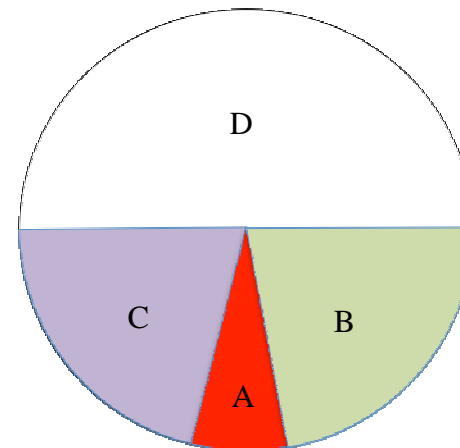

Fig. 2 Control Area
1. Include: Pointing the arrowhead to area A first (shown in Fig. 2). Pressing the button three times within 1.5 seconds. The red LED will light up for 1 second if succeed.
2. Exclude: Pointing the arrowhead to area A first (shown in Fig. 2). Pressing the button three times within 1.5 seconds.
3. Reset to default: Pointing the arrowhead to area A first ((shown in Fig. 2)). Pressing button four times within 2 seconds and hold at fourth. The red LED will light for 3 seconds, release the button within 2 seconds while the LED go out. The LED will flash for 1 second if reset succeed, or LED will flash once